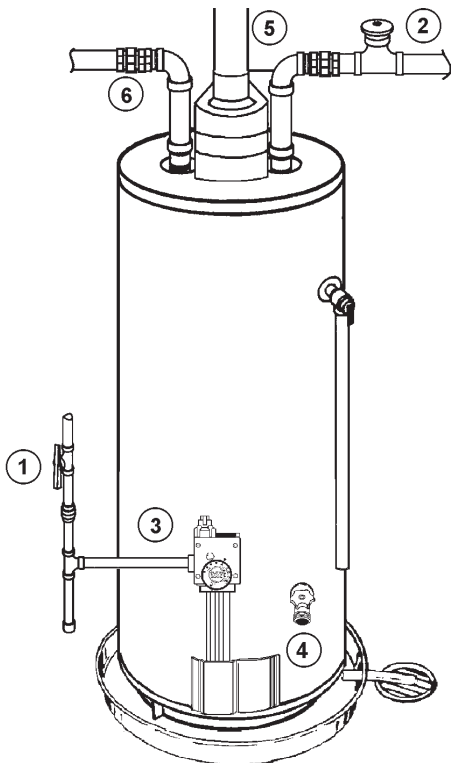

FIGURE 3.
If the main gas line Shut-off valve serving all gas appliances is used, also shut "OFF" the gas at each appliance. Leave all gas appliances shut "OFF" until the water heater installation is completed, see Figures 3 and 4.
2. Turn "OFF" the water supply to the water heater at the water shut off valve or water meter. Some installations require that the water be turned off to the entire house, see Figures 3 and 5.
4. Attach a hose to the water heater drain valve and put the other end in a floor drain or outdoors. Open the water heater drain valve. Open a nearby hot water faucet which will relieve pressure in the water heater and speed draining. The water passing out of the drain valve may be extremely hot. To avoid being scalded, make sure all connections are tight and that the water flow is directed away from any person, see Figures 3 and 6.